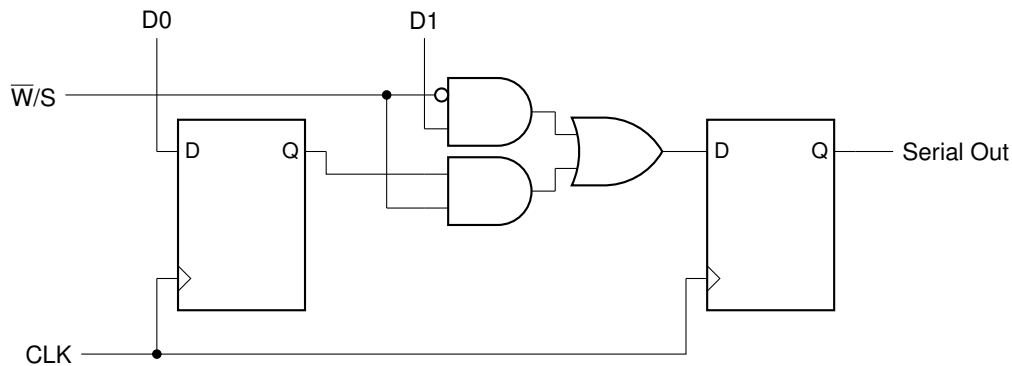

Figure 5.7: Schematic of a 2-bit parallel in / serial out (PISO) register.
**Parallel in / serial out (PISO)** registers are used to input data from a general purpose register or memory and to output that data serially through a serial communication protocol. A schematic of a 2-bit PISO register is shown in Figure 5.7 (only two bits are shown to save space). A control signal  $\overline{W/S}$  is used to control if the data loads into the flip-flops (which occurs when the signal is held LOW) or if data shifts through the flip-flops (which occurs when the signal is held HIGH).